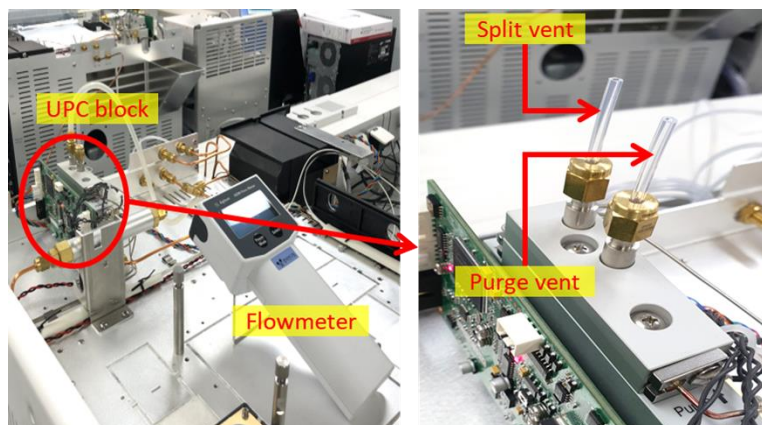

Figure 6. Where to measure the 'Purge' & 'Split' flow using a digital flowmeter
5. First, connect the digital flowmeter to purge vent line (indicated in Figure 6) and check the actual flow rate of 'Purge'.
13. Lastly, connect the digital flowmeter to split vent line (indicated in Figure 6) and check the actual flow rate of 'Split'.